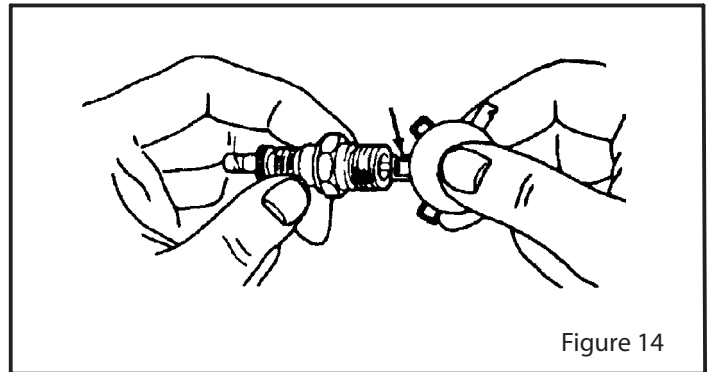

Figure 14
7. **(Figure 14)** Set the gap between the electrodes of the new spark plug at .030 inch. Next, install the spark plug in the cylinder head and firmly tighten. Recommended torque is 18 to 20 ft-lbs.